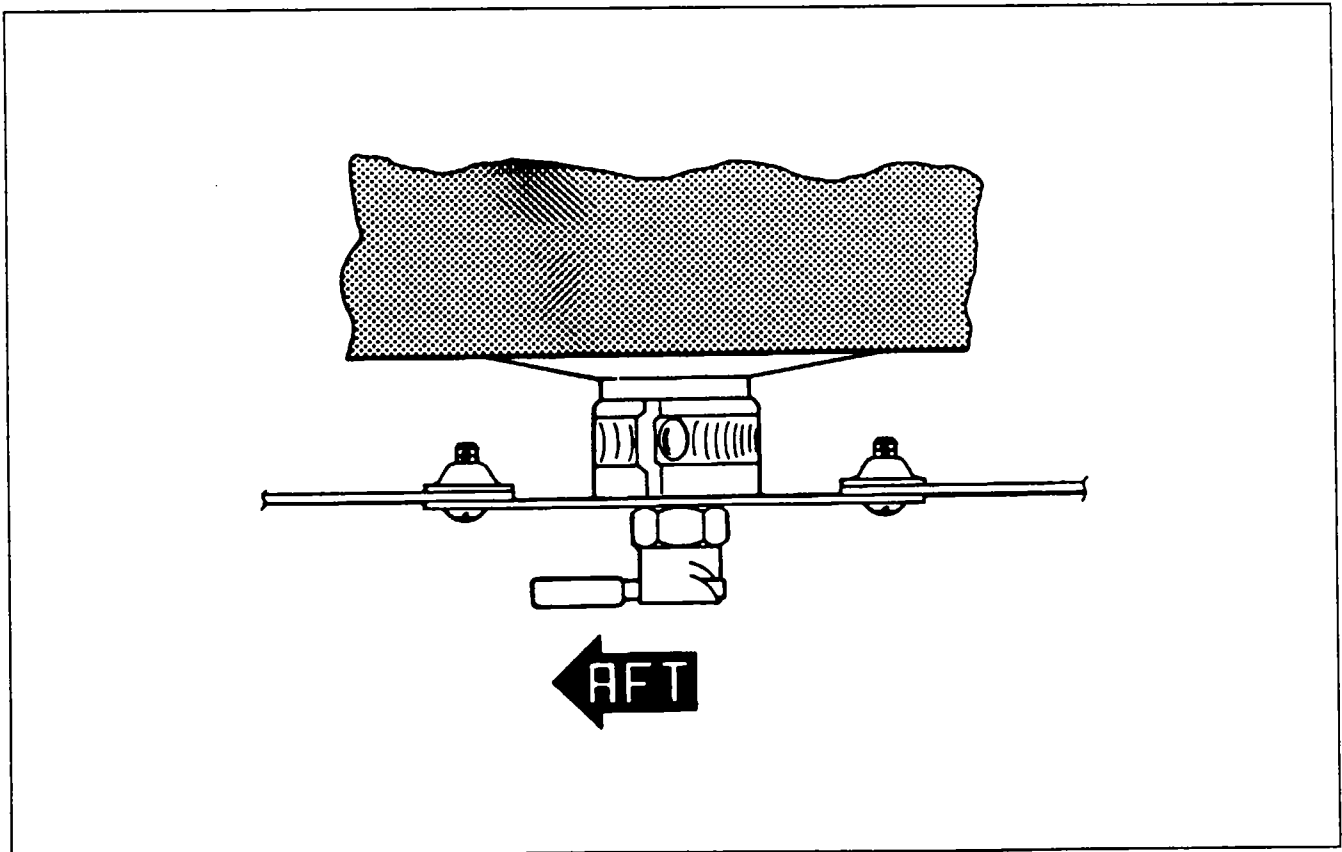

Figure 28-3. Fuel Valve Drain Plate
8. Connect the fuel drain plate by inserting the threaded end of a bolt or rod (not under three inches long) up through the plate and nipple fitting of the fuel cell. (Refer to Figure 28-3.) Reach through the fuel cell opening and install a 2 or 2-1/2 inch diameter washer on the bolt or rod and secure with a nut. Pull the nipple down through the opening in the wing panel enough to clamp the nipple fitting to the plate.